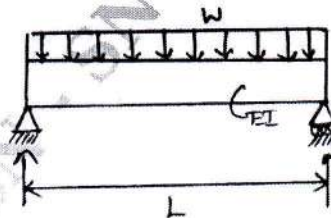

Fig. Q2 (b)
- Determine the deflection curve and the mid-span deflection of the simply supported beam shown in Fig. Q2 (b). The beam has a doubly symmetrical cross section.